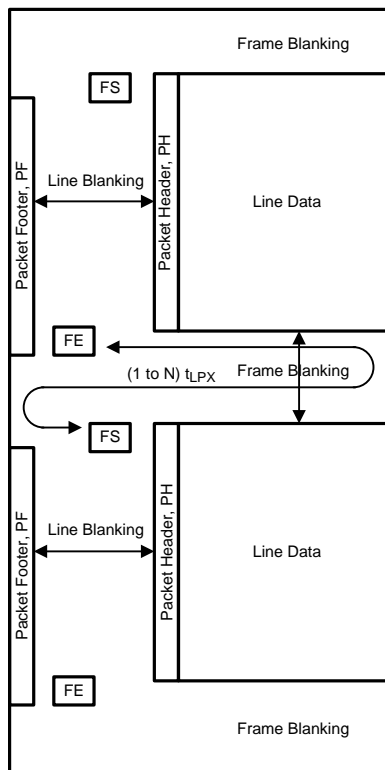

Figure 31. CSI-2 General Frame Format
The DS90UB940N-Q1 (in default mode) takes RGB 24-bpp data bits defined in the serializer and directly maps the bits to the pixel color space in the data frame. The DS90UB940N-Q1 follows the general frame format as described per the CSI-2 standard (Figure 31). At the end of the vertical sync pulse (VS), the DS90UB940N-Q1 generates the frame end and frame start synchronization packets within the vertical blanking period. The timing of the frame start will not reflect the timing of the VS signal.